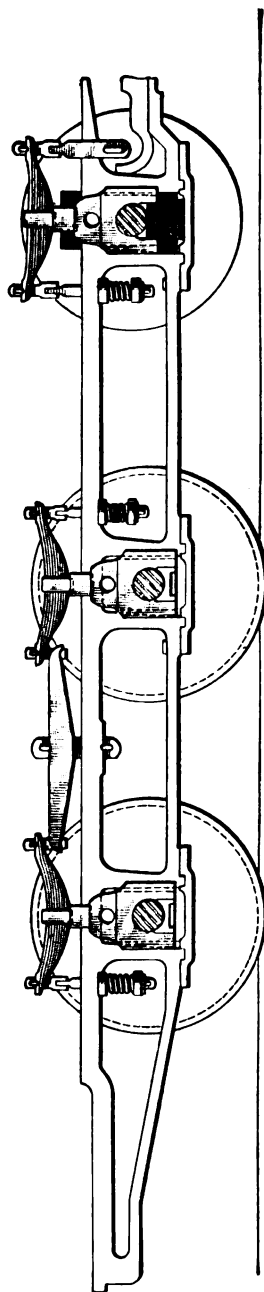

FIG. 31.
**64.** In the event of the front tire on a mogul engine breaking, run that wheel up on a wedge so as to raise it to about its normal position; remove the oil cellar and fit a block in its place and fill the space between the bottom of the box and the pedestal brace with another block, as shown in Fig. 31. Put waste in the space around the journal and saturate it well with oil; then put an iron block between the top of the frame and the spring saddle, as shown in the figure, to make the frame carry the weight that is usually carried by the box. Next, cut out the driver brake. If the side rods are uninjured, there is no reason why they should be taken down.